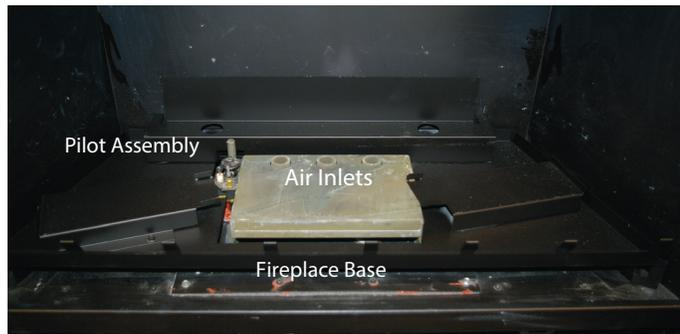
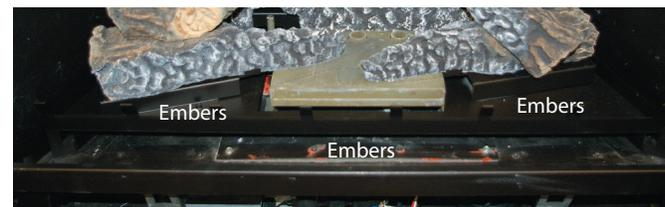

Figure 28a. H34DF*s Fireplace Base.
Figure 28f. Placing Embers.
Step 7. Place the Embers as shown in figure 28f. Arrange the ember chips on top of the burner tray. Care should be taken when placing the embers, as blocked burner ports may cause an incorrect flame pattern, carbon deposits and delayed ignition. Also, the embers must NEVER be placed in a way that obstructs any of the air inlet ports, located at the rear of the burner, as shown in figure 28a.